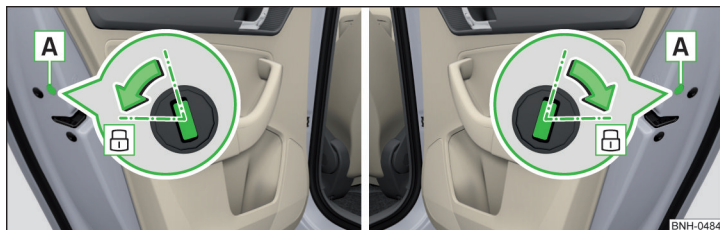

Fig. 144 Emergency locking: Left/right rear door
- Remove the cover **A** » Fig. 144.